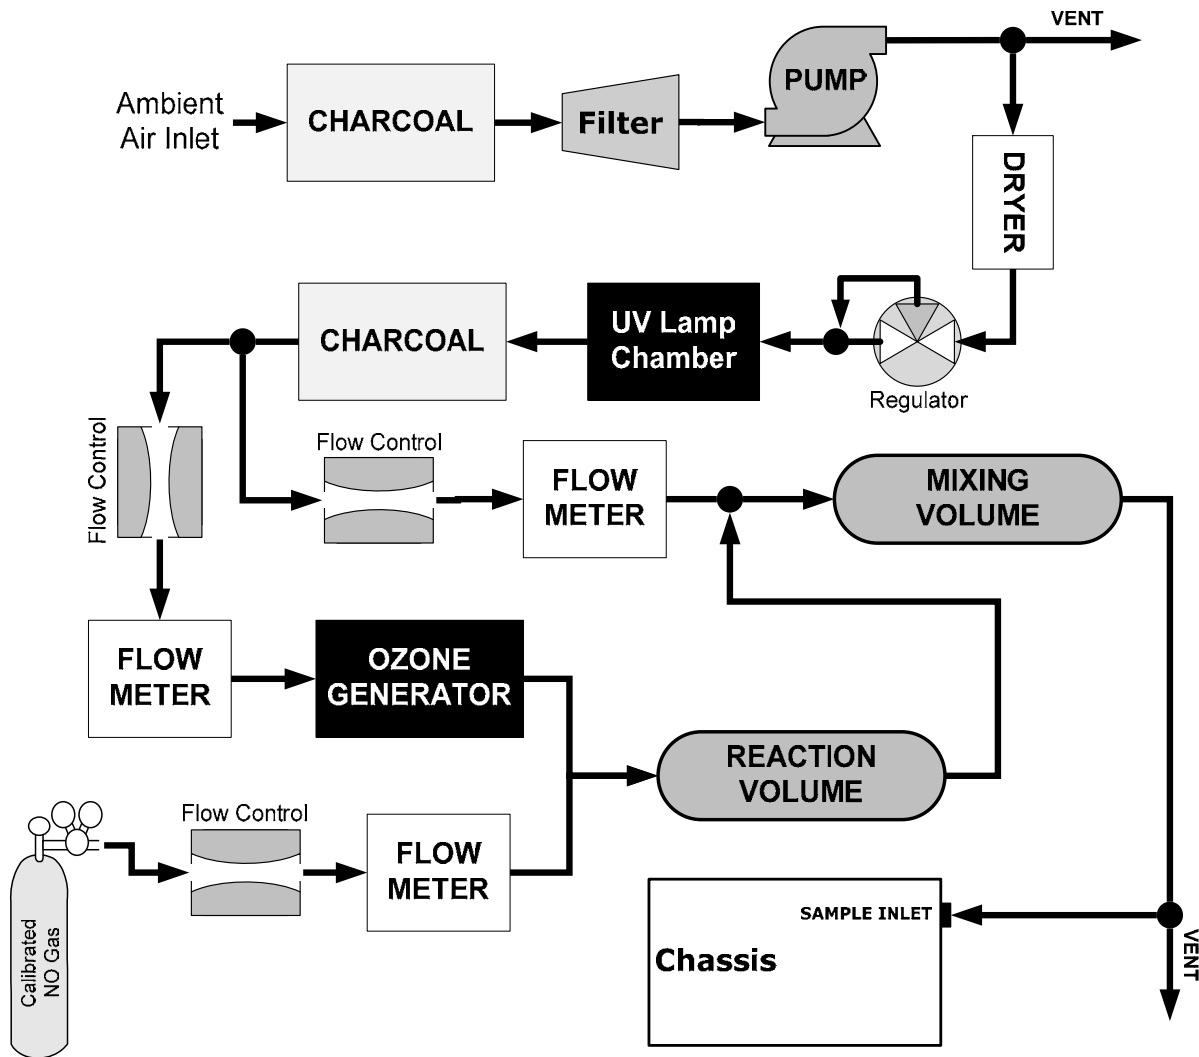

Figure 11-1: GPT Calibration System
- Given that the O3 concentration is known for this reaction, the resultant concentration of NO2 can be determined. Ozone is added to excess NO in a dynamic calibration system as shown in Figure 11-1, and the NO channel of the chemiluminescence analyzer detects the changes in NO concentration.